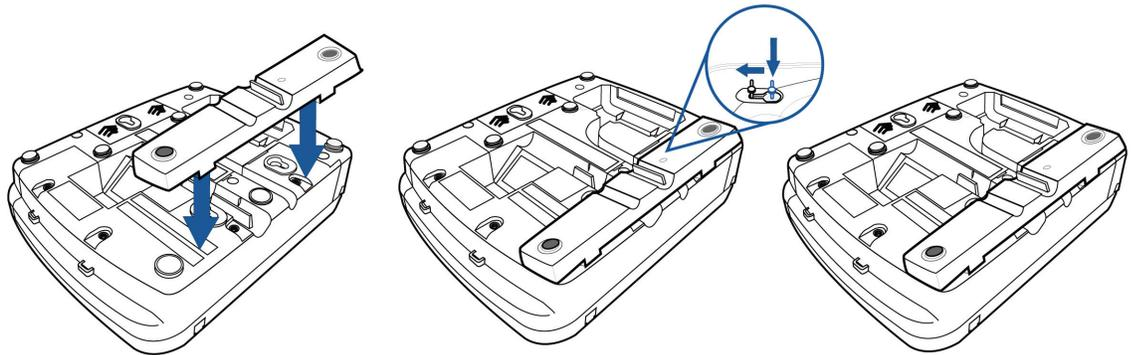

Figure 4 Installing the Countertop Wedge
- 1 Align the pins in the countertop wedge with the two key holes on the bottom of the MX800 Series terminal (Figure 4).